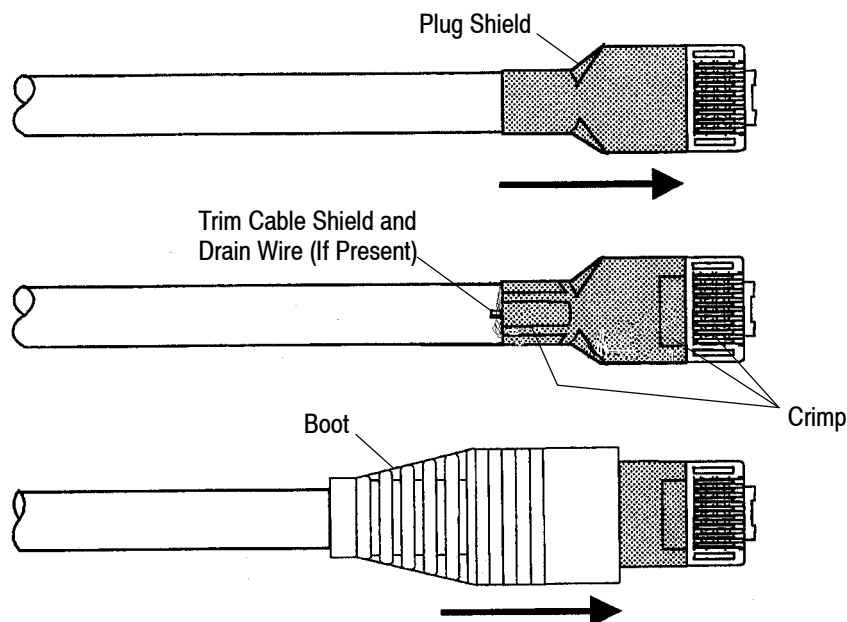

Figure 9
1. Slide the plug shield over the plug subassembly until it seats against the front edge of the recessed area around the outside of the plug housing. See Figure 9,
4. If the cable is shielded, trim away any cable shield and drain wire left extending beyond the end of the plug shield. See Figure 9.
5. Slide the boot over the crimped plug and shield. See Figure 9.